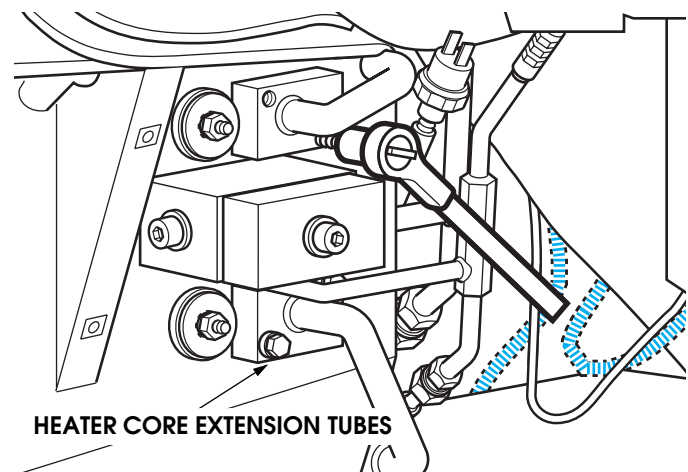

Figure 11-85: Heater Core Extension Tube Removal
5. Remove 4 bolts securing heater core extension tubes. Plug all open holes and discard all sealing washers (Figure 11-85).